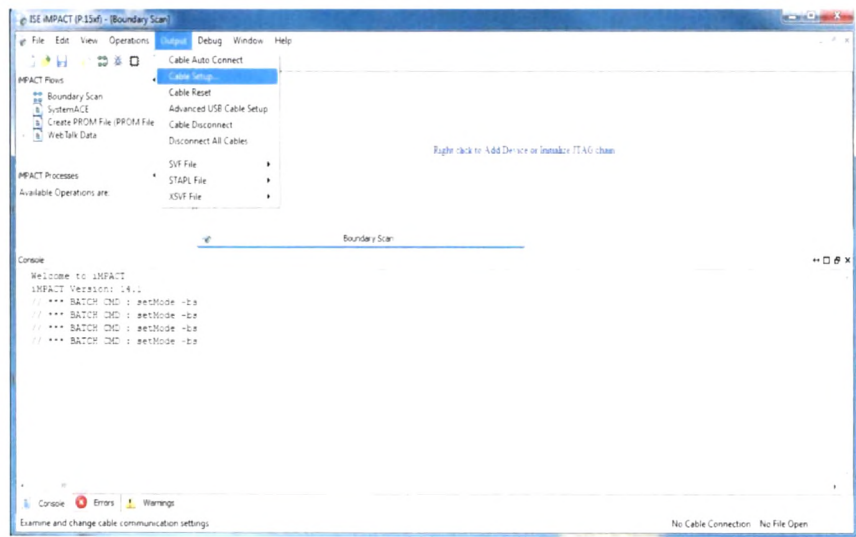

Figure A.8: Cable Set up
- 1. Launch Impact, double click on “Boundary Scan”, and select the “Cable Setup...” menu item from the “Output” menu.(Refer Figure A.8)